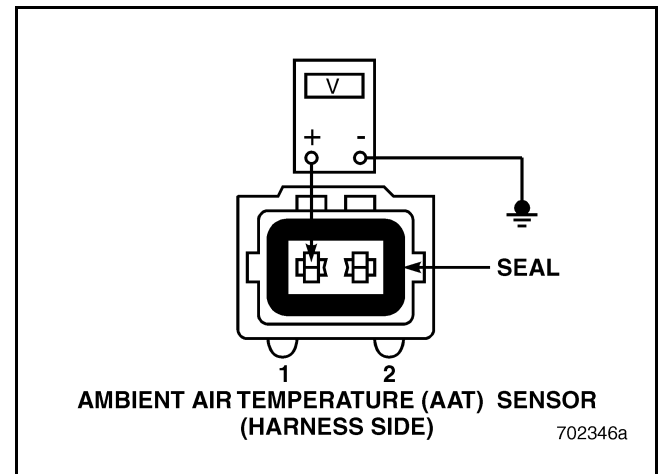

Figure 79
5. Measure the voltage between pin 1 of the AAT Sensor harness connector and a good ground (see Figure 79).